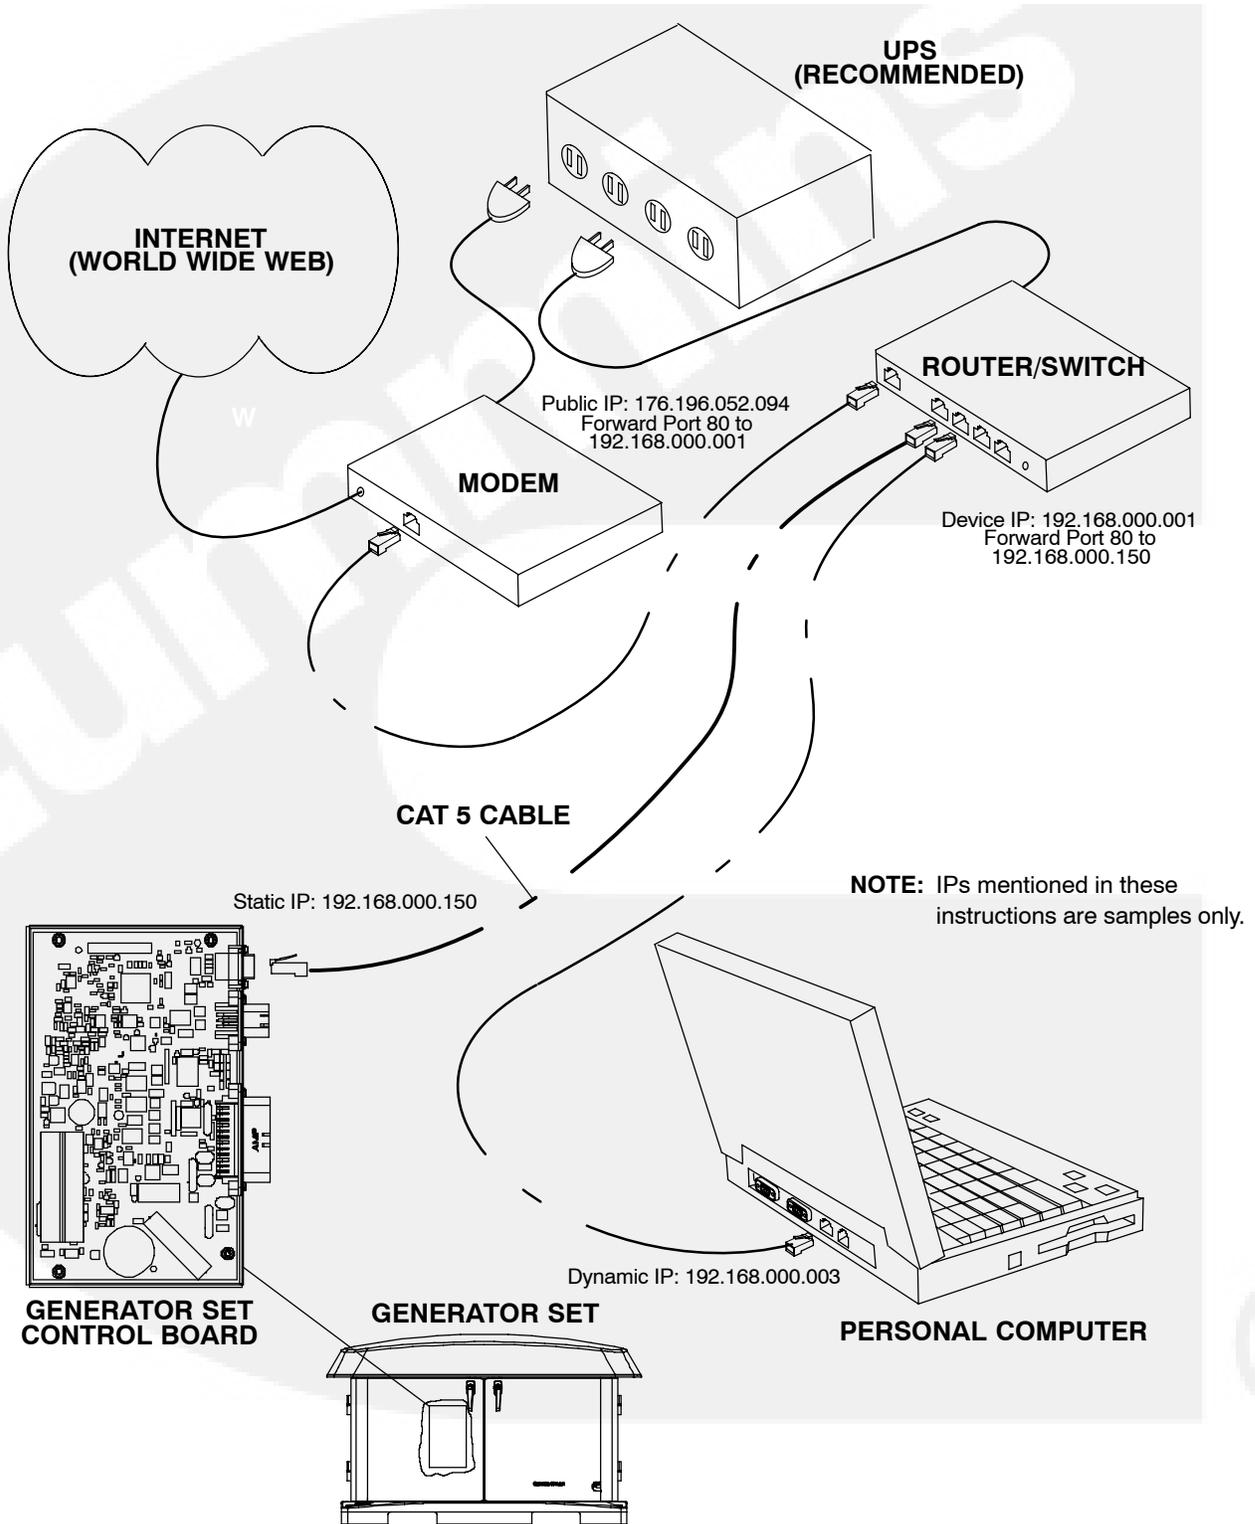

FIGURE C-1. NETWORK CONNECTIONS
2. Set up in-home computer access to the generator set. See Figure C-1.
- 1 – If you can’t remember your password, reset it to “cummins” by selecting **Reset Password** on the Network Setup screen on the in-home Operator Panel and pressing the up or down arrow (Figure C-1).